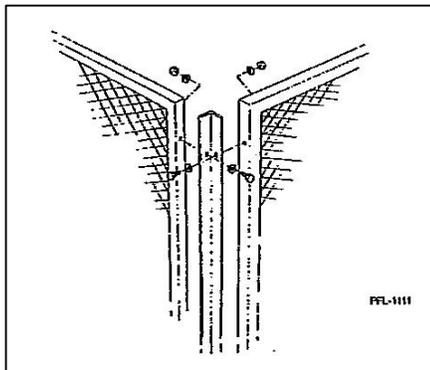

Figure 5
- 6. Corner angles are required for 90° attachment of panels. **See Figure 5.**